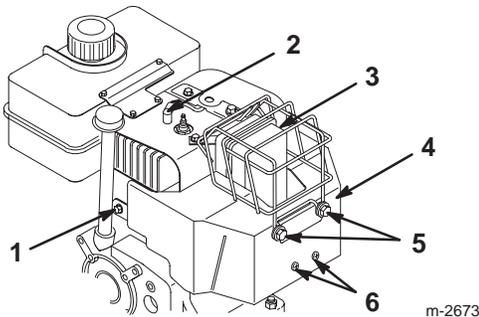

Figure 23
If you operate the engine when the air temperature is above 40°F (4°C), remove the carburetor heater box (Fig. 23).
1. Disconnect the wire from the spark plug and ensure that the wire does not contact the plug (Fig. 23).
4. Remove the fasteners that secure the carburetor heater box (Fig. 23).